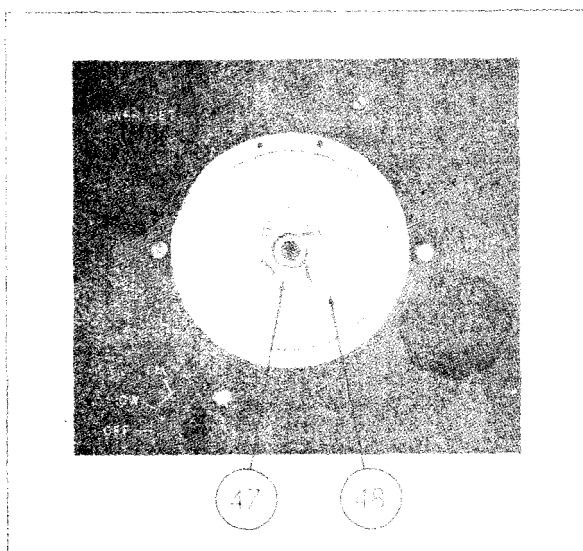
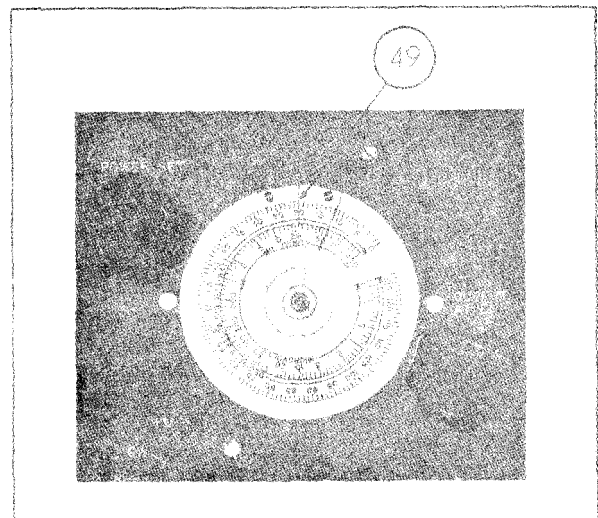
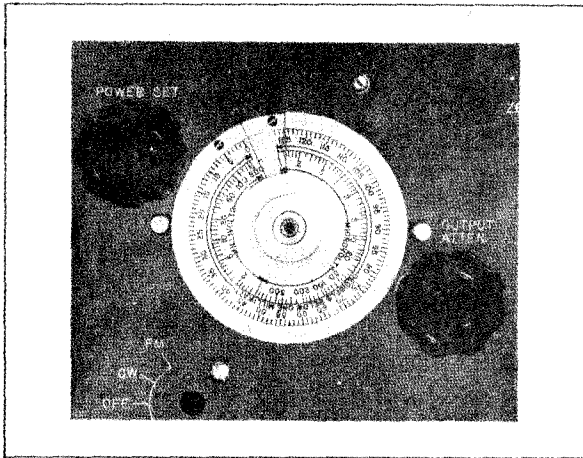

Figure 4-35. Index Plate Assembled
Figure 4-36. Attenuator Dial Assembled for Index Adjustment
Figure 4-37. Position of Index with Both Controls Set Counter-Clockwise
Figures 4-35 to 4-37 show the assembly of the attenuator dial and index system. Before tightening the four 6-32 x 1/4 inch flat head screws which hold the index plate (48) and clamping ring (47), place the dial on the hub and fasten the index (49) as shown in figure 4-36. It should now be possible to slip the index plate when the POWER SET control is held fast.
The index plate and POWER SET control should be adjusted so that the POWER SET control swings the index an equal amount on either side of vertical (12 o'clock); thus, in figure 4-36 it is possible to swing the index by use of the POWER SET control from approximately the 28 db mark to approximately the 12 db mark.
The index and dial should then be removed carefully and the four clamping screws shown in figure 4-35 tightened without disturbing the position of the index plate or the POWER SET control. The index and dial should be replaced in such a way that when both POWER SET and OUTPUT ATTEN controls are completely counter-clockwise the index is one db from the zero mark as shown in figure 4-37.
Now set the main tuning shaft so that the output rf frequency is 3000 megacycles as measured on the frequency meter. At this point, without disturbing the setting of the frequency drive, the main tuning dial can be placed on its shaft. The tuning dial is held on by a clamping plate similar to that holding the attenuator dial (see figure 4-35). Before tightening the screws holding the clamping plate, the dial cover should be placed over the tuning dial and the dial slipped on its shaft so that it reads exactly 3000. The dial clamping screws can then be tightened and the dial cover replaced.